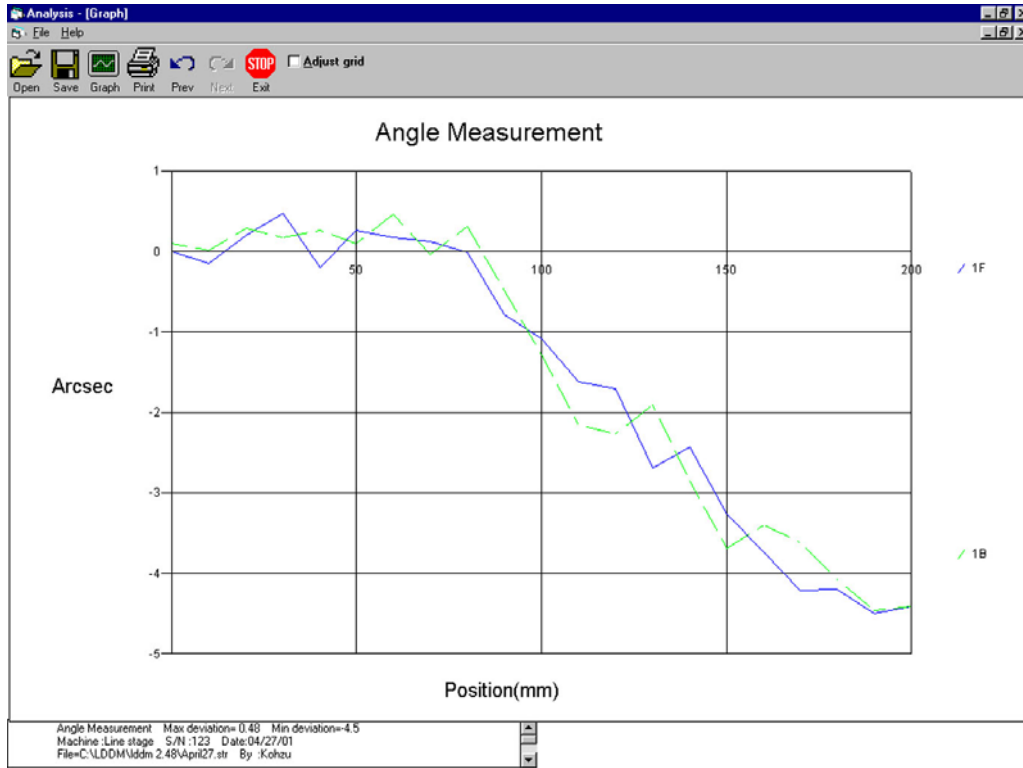

FIG. 12-7 PLOT OF MEASURED PITCH ANGLES IN ARCSEC vs. POSITION
14. Typical plots of pitch angle in arcsec (1 run), pitch angle in arcsec (7 runs), straightness and adjusted straightness are shown in Figs. 12.7, 12.8, 12.9 and 12.10 respectively, and their data is shown in Table 12.1.
After a measurement is completed, the data can be analyzed by the same software. The output of a typical measurement on a milling machine is shown in Fig. 12.7 to 12.10, and the data is shown in Table 12.1. The measurement here was on the x-axis with 0.5 in. increments, and 12 in. total travel. Fig 12.7 is the pitch angle in  $\mu\text{rad}$  vs. distance and Fig. 12.8 is the same pitch angle in arcsec vs. distance. Fig. 12.9 is the straightness vs. distance, where the initial slope is zero. Fig. 12.10 is the adjusted straightness vs. distance, where the deviation at both the start point and end point are zero. The measurement increment, total points, maximum or minimum angle or deviation and axis of motion are shown on the bottom of each plot.